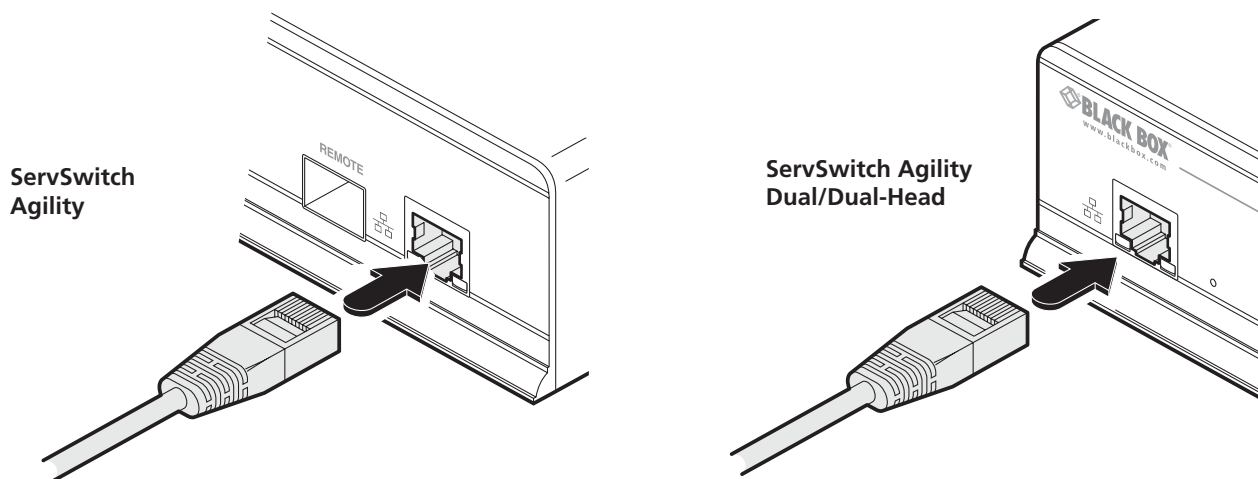

Figure 4-2. Connect the ServSwitch Agility to your computer.
- 1 Connect a CAT 5, 5e, 6, or 7 link cable to either the Management (Agility Dual/Dual-Head only) or System port socket on the front panel. The port automatically configures itself, so no cross-over cable is required (but is supported if you do use one). See Figure 4-2.